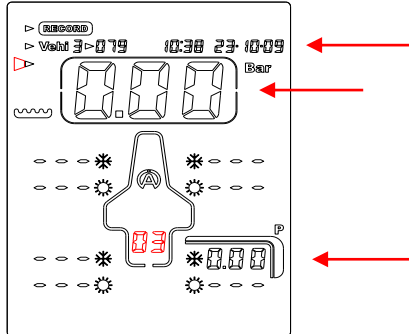

Figure 3
4) With the button  or , select the « **FACE** » (figure 3)
On the example (figure 3), the Tyrecontrol is ready to record, for the vehicle 3, a set of captures in the Set « 03 » before race , (« Set » free of the vehicle 3) while starting with a capture of pressure on the right rear tyre.